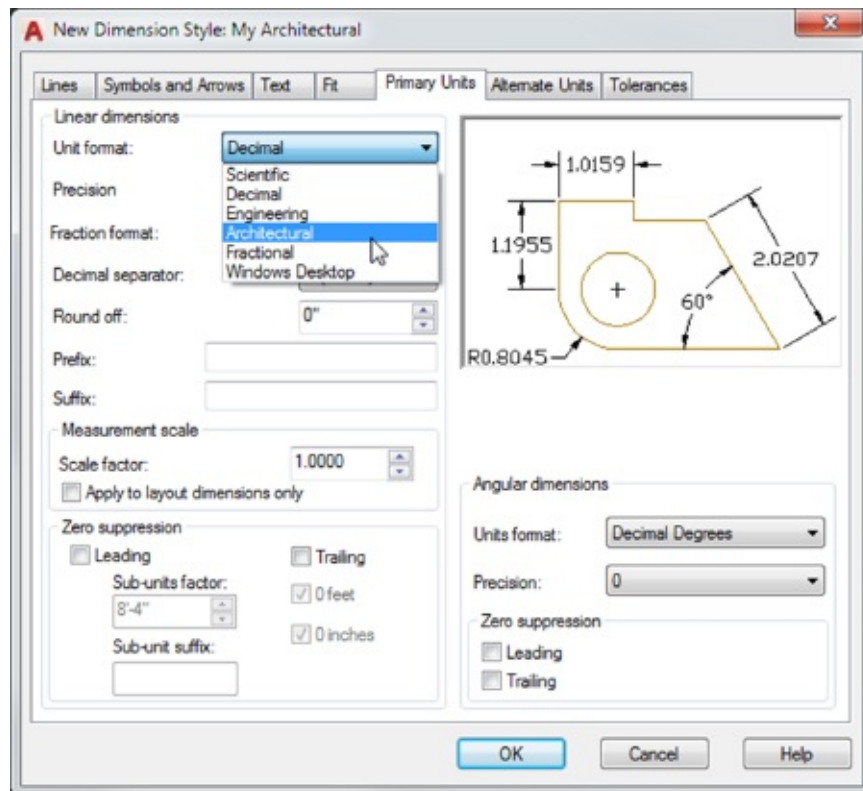

FIGURE 11.6 The Primary Units options
1. In the New Dimension Style dialog box, click the Primary Units tab (see Figure 11.6).